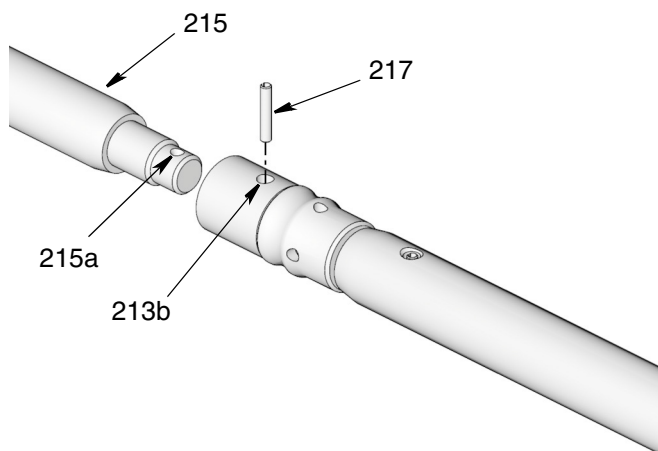

FIG. 38
8. Thread priming rod (215) into end of piston rod (213). Hand tighten the two pieces together securely, ending with hole (215a) aligned with hole (213b) (FIG. 38).
9. Install pin (217) through the aligned holes [215a and 213b (FIG. 38)]. Support rods (215 and 213) as needed to ensure the rods do not bend. Use a pick and hammer to seat the pin inside the rods.